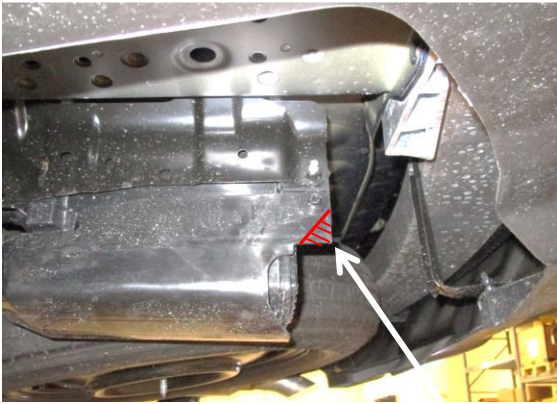

Figure 2 Area to trim
3. **Trim carbon canister shield** – Using tin snips, trim the bottom rear corner of the carbon canister shield as shown. **See Figure 2.**